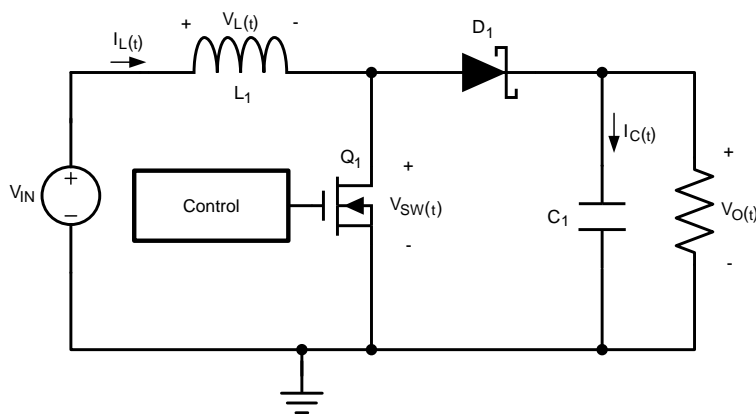

Figure 13. Simplified Schematic
The LM2735 is a constant-frequency PWM boost regulator IC that delivers a minimum of 2.1 A peak switch current. The regulator has a preset switching frequency of either 520 kHz or 1.6 MHz. This high frequency allows the device to operate with small surface mount capacitors and inductors, resulting in a DC-DC converter that requires a minimum amount of board space. The LM2735 is internally compensated, so it is simple to use, and requires few external components. The device uses current-mode control to regulate the output voltage. The following operating description of the LM2735 refers to the simplified internal block diagram (Functional Block Diagram), the simplified schematic (Figure 13), and its associated waveforms (Figure 14). The LM2735 supplies a regulated output voltage by switching the internal NMOS control switch at constant frequency and variable duty cycle. A switching cycle begins at the falling edge of the reset pulse generated by the internal oscillator. When this pulse goes low, the output control logic turns on the internal NMOS control switch. During this on-time, the SW pin voltage (V_{SW}) decreases to approximately GND, and the inductor current (I_L) increases with a linear slope. I_L is measured by the current sense amplifier, which generates an output proportional to the switch current. The sensed signal is summed with the corrective ramp of the regulator and compared to the error amplifier's output, which is proportional to the difference between the feedback voltage and V_{REF} . When the PWM comparator output goes high, the output switch turns off until the next switching cycle begins. During the switch off-time, inductor current discharges through diode D1, which forces the SW pin to swing to the output voltage plus the forward voltage (V_D) of the diode. The regulator loop adjusts the duty cycle (D) to maintain a constant output voltage .